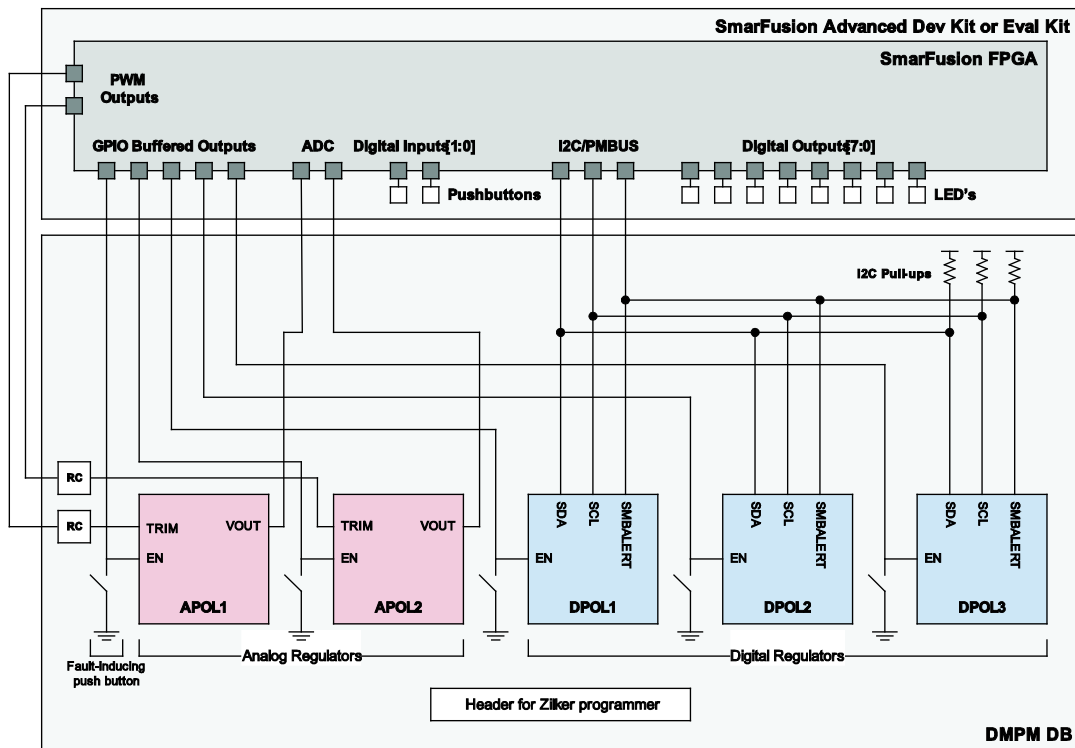

Figure 32 · MPM Daughter Card
The Digital Mixed Signal Power Manager (DMPM) Daughter Card (DC) enables system designers to evaluate and demonstrate the functionality of Microsemi's power management solutions in hardware, using a five regulator benchtop power management development system. The daughter card includes two analog regulators with adjustable bias voltage POTs, three digital regulators residing on a connectable PMBus (I²C) bus, five push buttons, and a series of LED's that may be used to demonstrate and explore MPM digital output functionality. The Figure 32 shows the MPM daughter card with its major components.